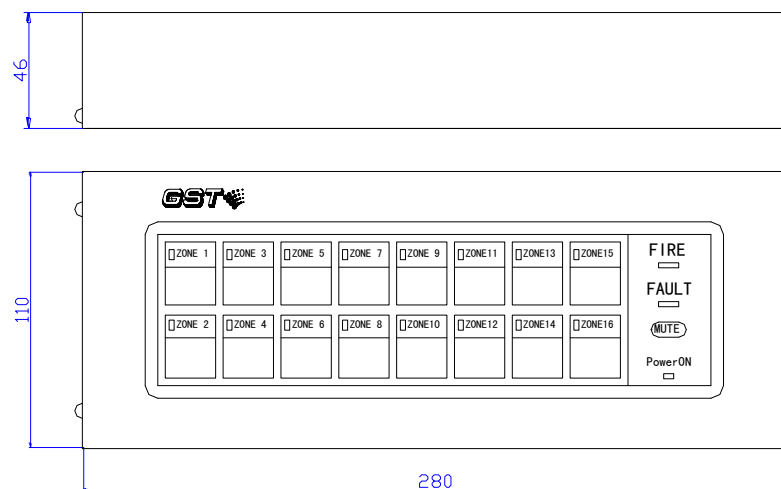

Fig. 1 Appearance
1. GST-RP16 is wall-mounted. Its appearance is shown in Fig. 1.